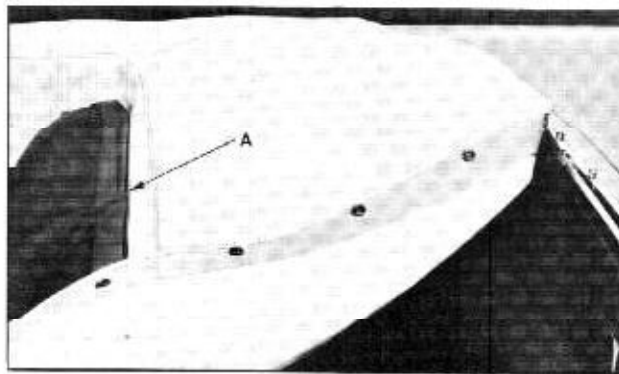

Fig. 15-71 Boot Partially Installed
2. Place top boot in position over folded top and engage several boot fasteners to studs along rear molding. Then adjust boot to remove wrinkles by sliding forward edge of boot to right or left in retainer. (Fig. 15-71)